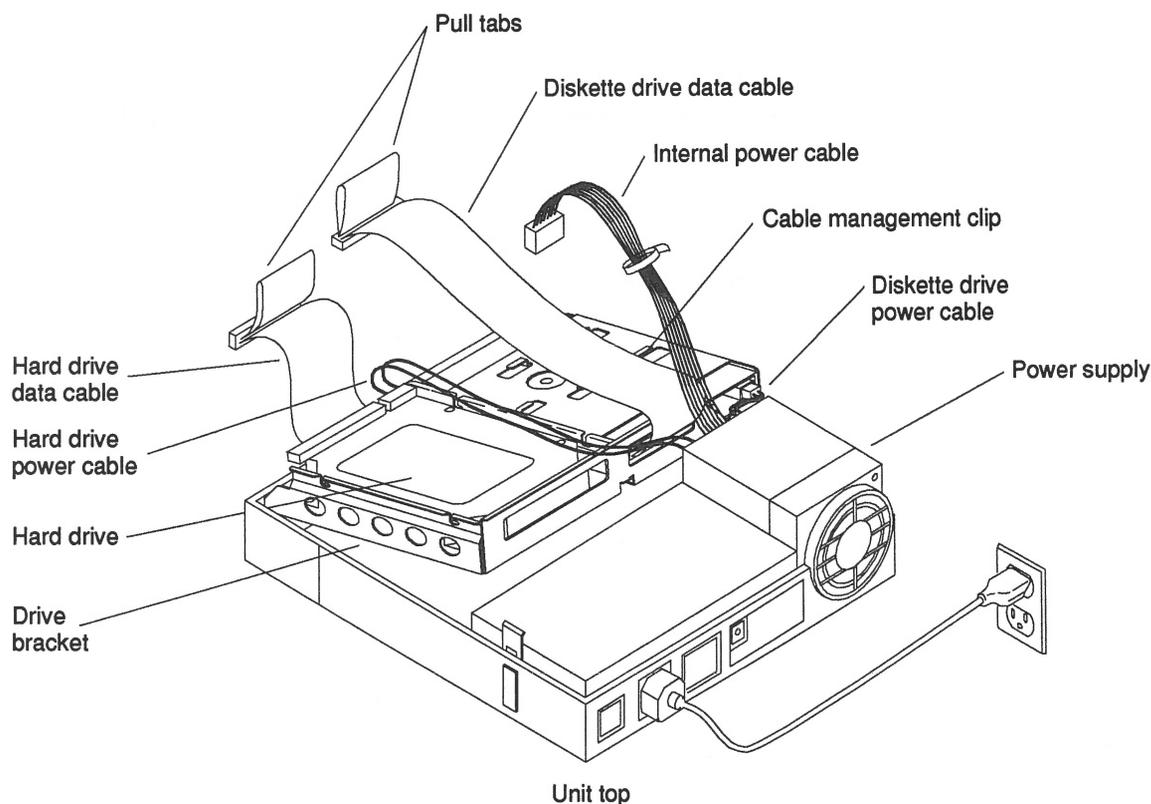

Figure 6-9 Removing and Replacing the Disk Drive Mounting Bracket
- 2. Install the bracket. Refer to Figure 6-9.**